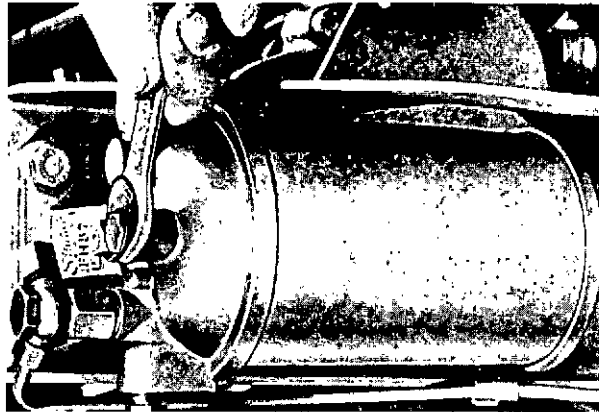
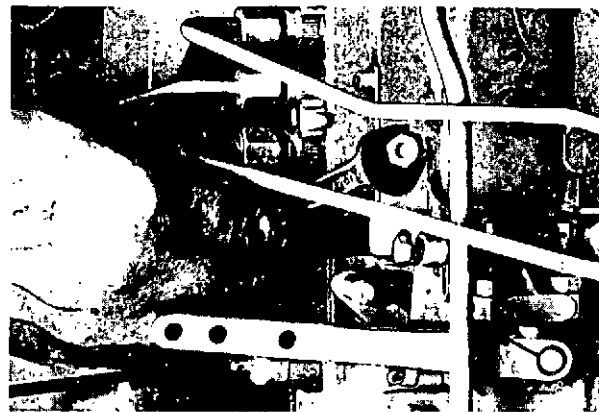

Fig. 19
Fig. 20
**NOTE:** On some engines a non-return valve is fitted to the fuel injection pump in place of the forward vent plug shown in Fig. 20 with a pipe fitted between the valve and the fuel filter. This arrangement makes the system self-bleeding by providing a continuous flow through the pump. It may be advisable, however, where a large amount of air has entered the system, to bleed the system manually, as detailed above, using the rear vent plug of the fuel injection pump.
- (a) Unscrew by two or three turns the vent plug on top of the filter (see Fig. 19) and one of the two vent plugs of the fuel injection pump (see Fig. 20).